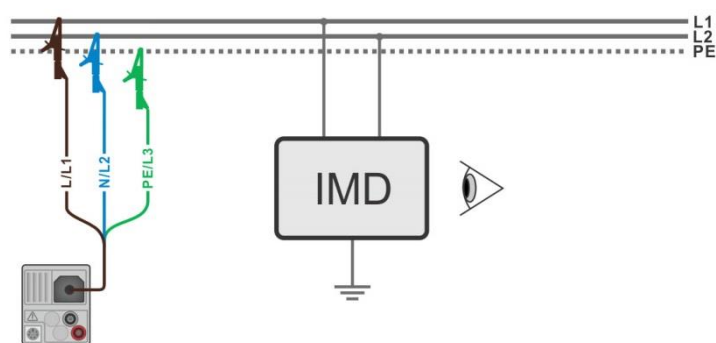

Figure 7.93: Connection with 3-wire test lead
- Connect test leads to the object under test, see **Figure 7.93**.